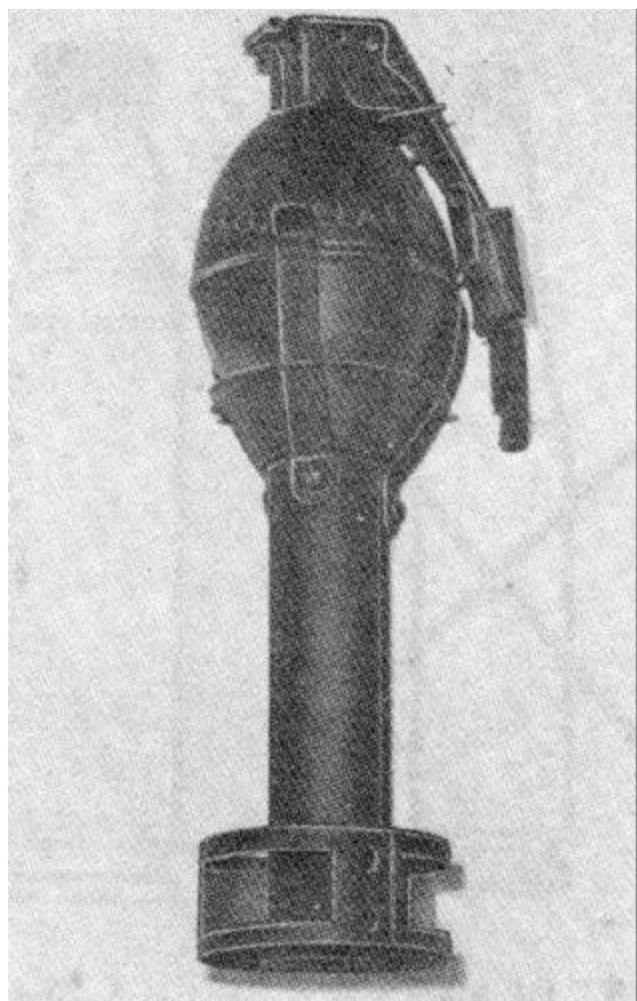

Figure 4-5      Adapter Fitted With Fragmentation Grenade
- (1) the base of the grenade is fully seated against the base of the cup,
- (2) each claw holds the grenade tightly above the seam of the grenade,
- (3) the safety lever is securely inserted well up in the arming clip, opposite the seam of the grenade, as shown in Figures 4-5 and 4-8, and
- (4) no damage has occurred to the grenade or the adapter. Particular attention must be paid to the arming clip and the arming clip retainer.